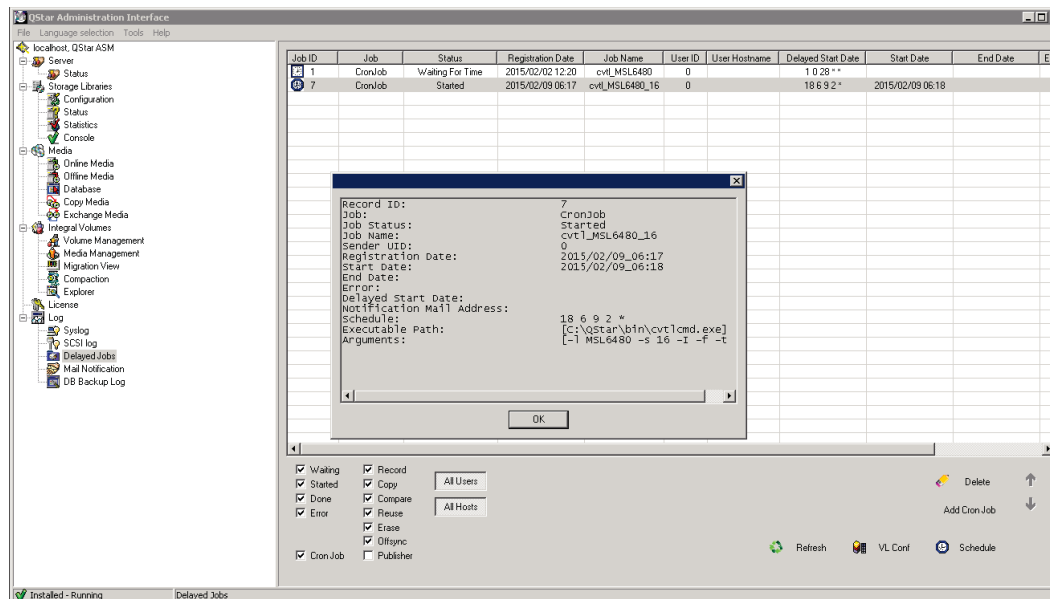
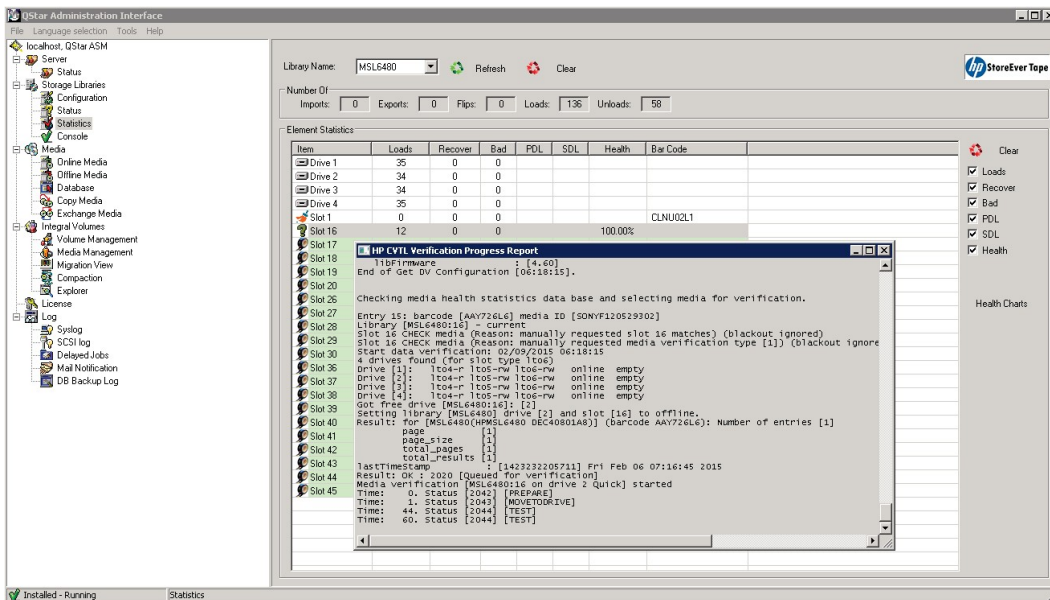
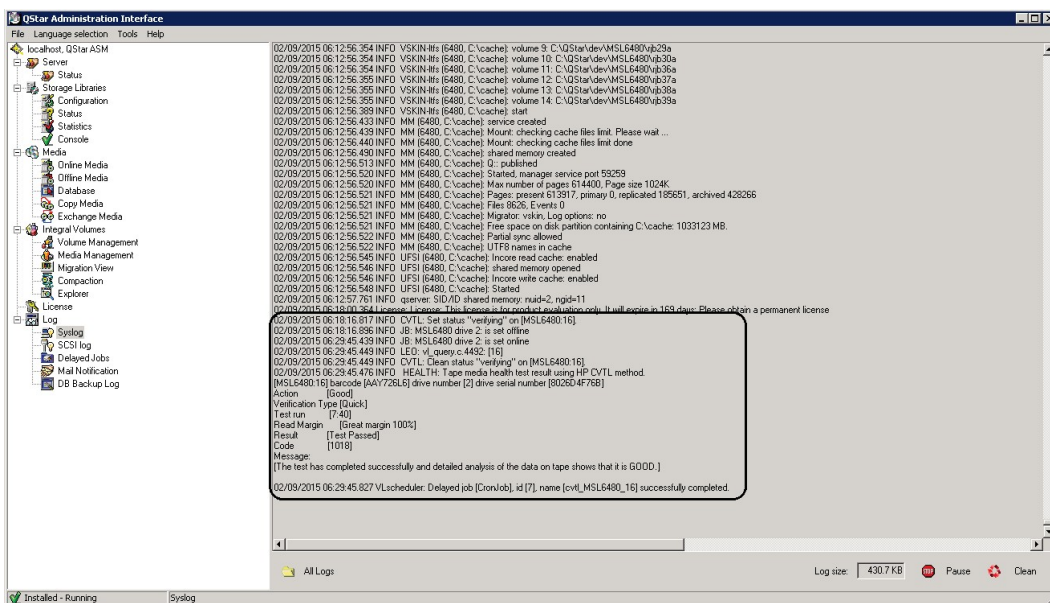

Figure 24. Viewing the status of a verification job
Figure 25. Viewing the verification report for a slot
Figure 26. Viewing the verification job results in the Syslog
- Once the verification job has started, you can double-click on it to view details. See **figure 24** as an example. You can also return to the **Statistics** page under **Storage Libraries** and right-click on the slot that you selected for HPE CVTL Verification. The option **Verification Report** should now be available to select. See **figure 25** as an example for viewing the Verification Report. You can also view the results of the data verification job in the **Syslog** under **Log**. See **figure 26** as an example.